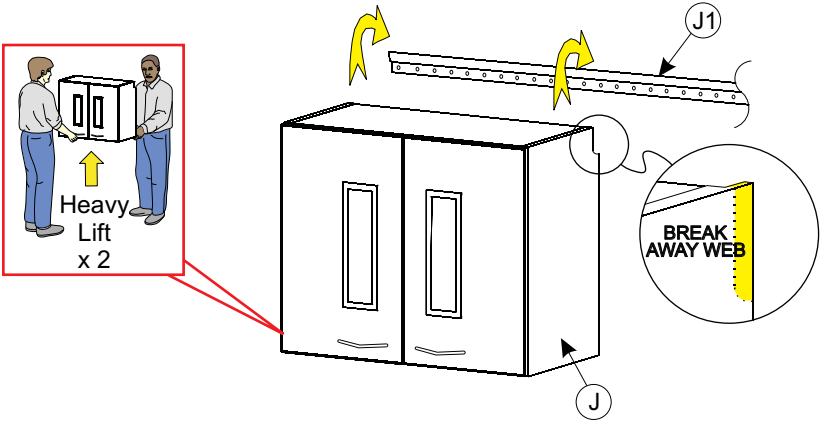

Figure 2A
At the upper corners of each wall cabinet, remove the break away web to enable a multiple wall cabinet installation. **DO NOT** remove the web for finished ends (see Figure 2A). With (2) people hang the Wall Cabinet (J) onto the Hang Rail (J1) (see Figure 2A) by placing cabinet against the wall above the Hang Rail (J1) then slide down the wall until the hanger bracket snags the Hang Rail (J1). To tighten the cabinet to the Hang Rail use a screwdriver to tighten (see Figure 2B). Tighten the screw on both Hanger Brackets per wall cabinet. Plug the interior lamp into a wall outlet **controlled by customer supplied light switch** through the access hole at the upper rear corner of The Wall Cabinet.